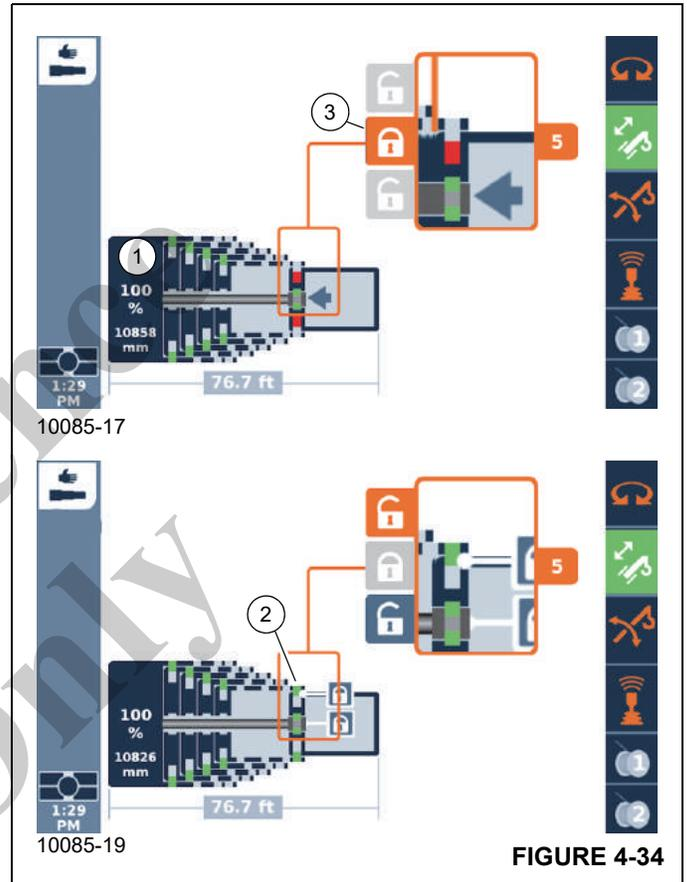

FIGURE 4-34
1. Telescope to the desired fixed length, e. g. telescopic section 5 to 100% (1, Figure 4-34).